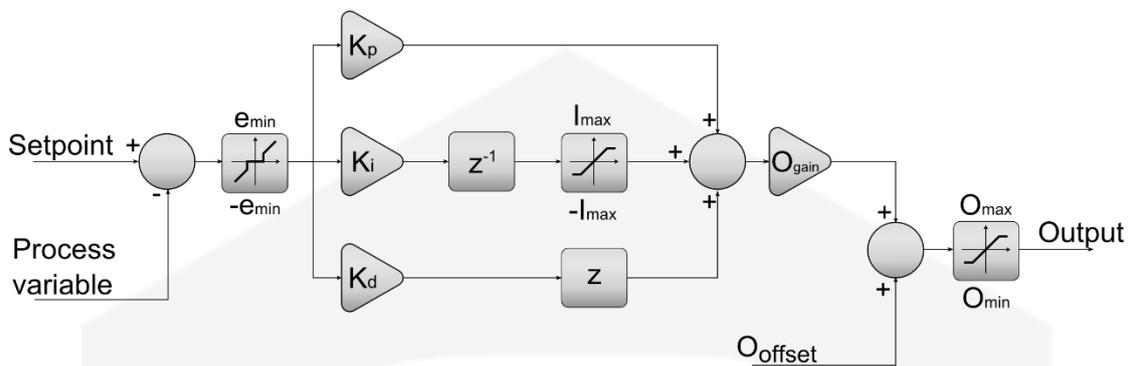

Figure 15: PID Regulator architecture
- *Feedback ON* – the feedback is enabled and the output is calculated by the PID algorithm (see **Figure 15** for a visual representation of the PID structure).
The usual K_p , K_i and K_d parameters are needed to calculate the well-known PID algorithm (**Figure 15**). There are also several other parameters available to the user; they can further optimize, tailor and fine tune the PID controller and therefore improve system performances.